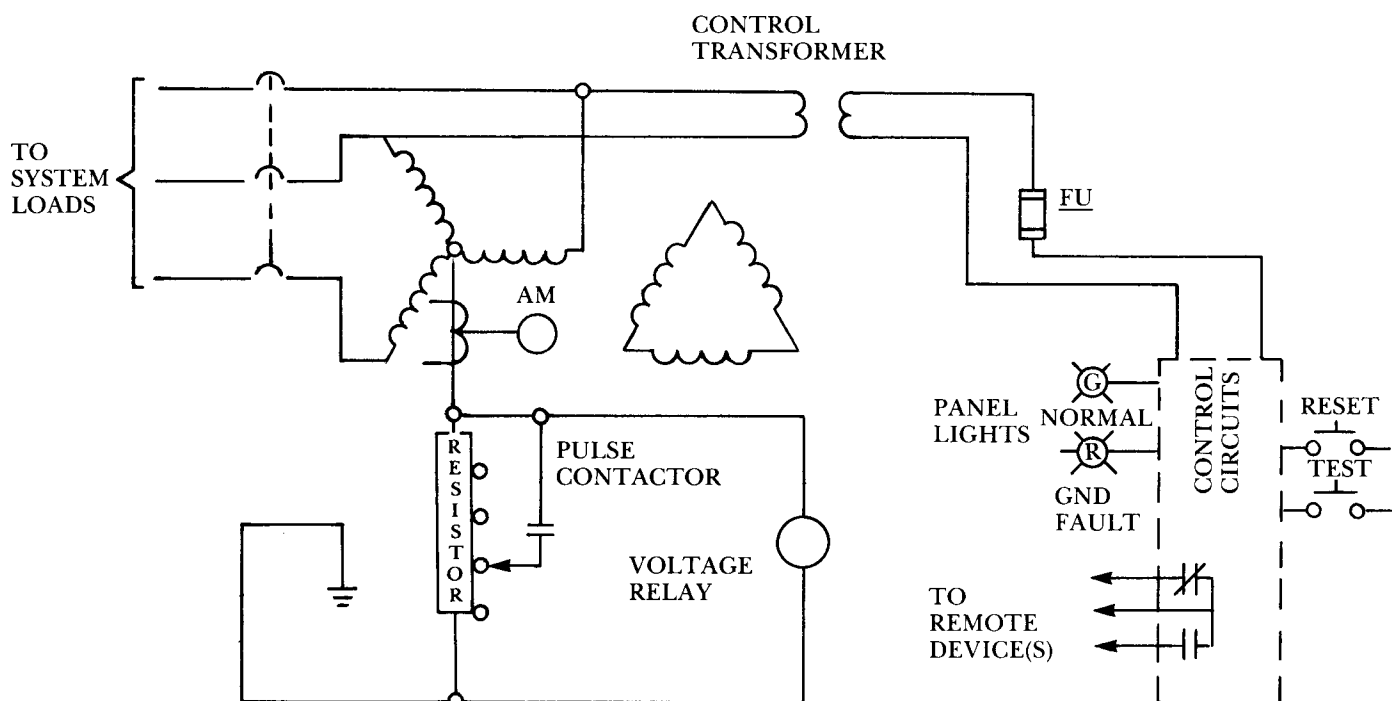

Figure 1. Basic System Operation
During normal conditions, with no ground fault on the system, no voltage appears across the system and no voltage appears across the grounding resistors. (Refer to Fig. 1).
2. Disconnect or open-circuit the resistors during test, and insert a 6-amp, 600V current limiting fuse as shown in Figure 1.
3. Connect a Variable Voltage Auto Transformer rated five (5) amps or more between equipment and ground as shown. Initially set at zero volts.
7. Energize the variable voltage auto transformer from an ungrounded, 110V, 60 Cyc. single-phase test source. (Use 1:1 isolation transformer rated (5) amps or more to obtain ungrounded voltage).